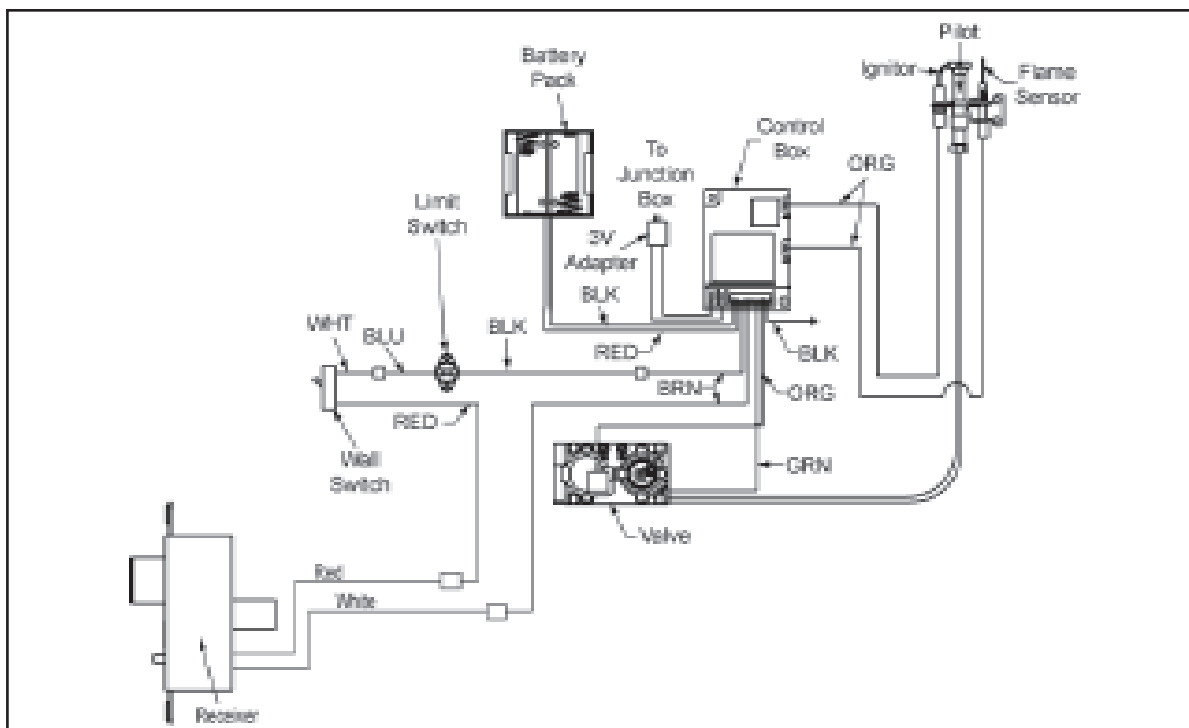

Figure 8 - Wiring to Valve
- d. Connect one of the lead wires from the RC-BATT-HTL receiver to the insulated male connector on the red wall switch wire. See Figure 8.
- e. Connect the other lead wire from the RC-BATT-HTL receiver to the female end of the brown control box wire. Use the piggyback side of the connector on the RC-BATT-HTL. See Figure 8.